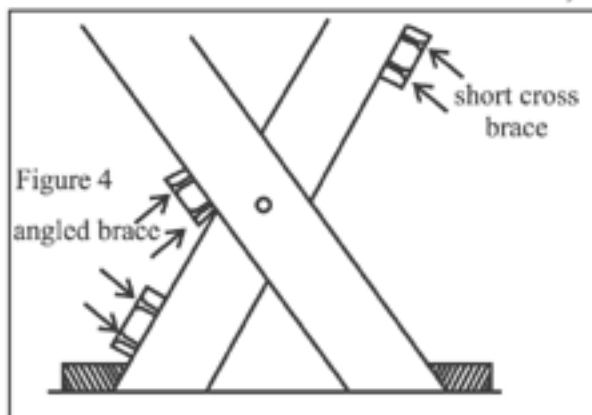

Figure 4
- 4) The angle brace secures the two outer legs together and is positioned as shown in figure 3 & 4. Leave a small gap (1/4") between the angled side of the brace and the inside set of legs as shown in figure 4.